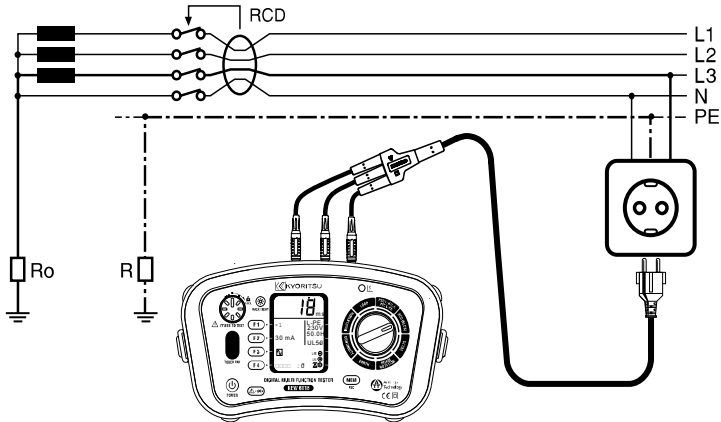

Fig.35
Ground being imperfect in the Fig35, when R exists, when a fault current flows to R, electric potential occurs. There is a possibility the person contacting in this imperfect ground, it calls the voltage, which it occurs in the human body of this time, called  $U_c$ .
2. Connect the test leads to the circuit to be tested. (Fig.35, 36, 37)